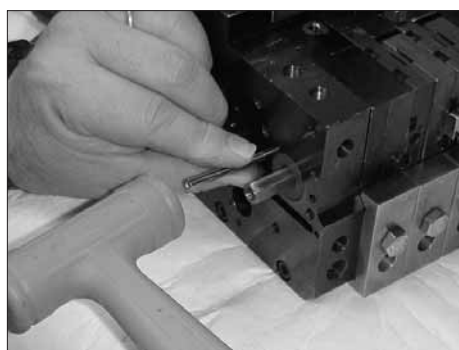

Figure 7-82 Installing the end-slice dowel pins
12. See Figure 7-82. Using a hammer, carefully install the end-slice dowel pins.